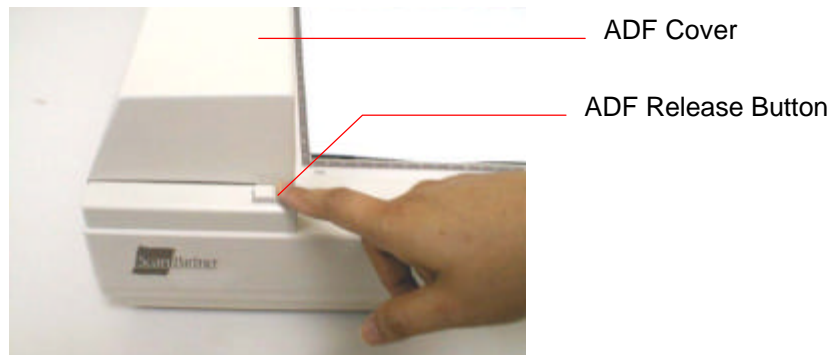

Figure 4-1 ADF Paper Jam - Opening the ADF.
- i). Press the ADF Release Button at the front left of the Scanner as shown in Figure 4-1. The ADF cover will be released.